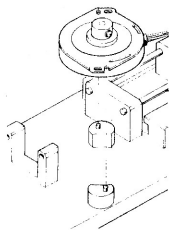

Fig. 11.8 Remounting the Step Motor
- (1) Mount the step motor and head on the jig as shown in figure 11-8 and 11-9.